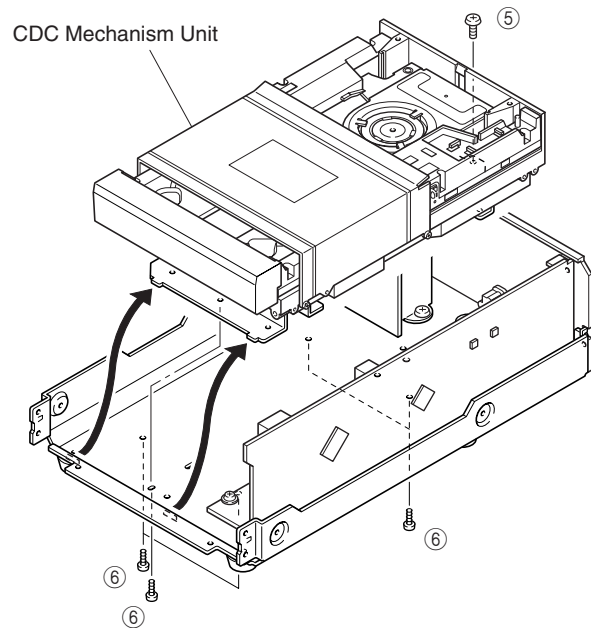

Fig. 3
- Remove 1 screw (⑤) and 5 screws (⑥) in Fig. 3 and then remove the CDC Mechanism Unit in Fig. 3.